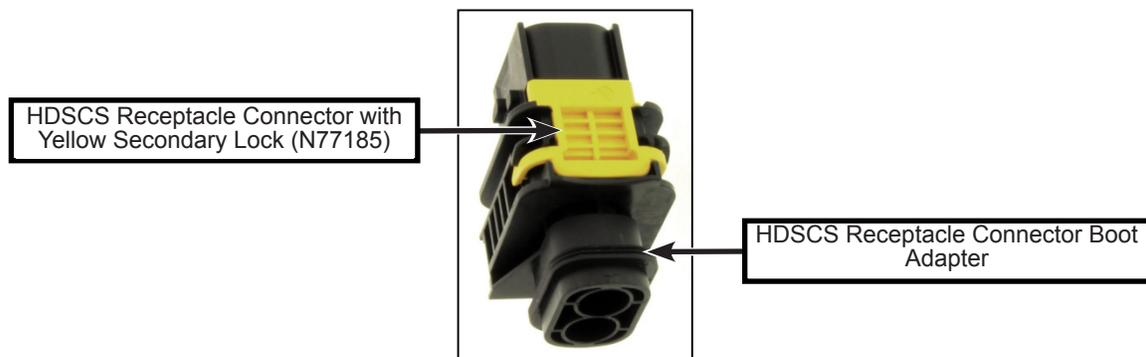

Figure 9 - TE Connectivity HDSCS Receptacle Connector
- 1.20. Insert the RED wire into position 1 and the BLACK wire into position 2 of the HDSCS receptacle connector PN N77185. Make sure that the yellow secondary lock of the receptacle connector is completely pressed (to move it from the unlocked to the locked position) after inserting both terminals (see Figure 9). Refer to Annex 2 for detailed instructions about terminals insertion and secondary lock.